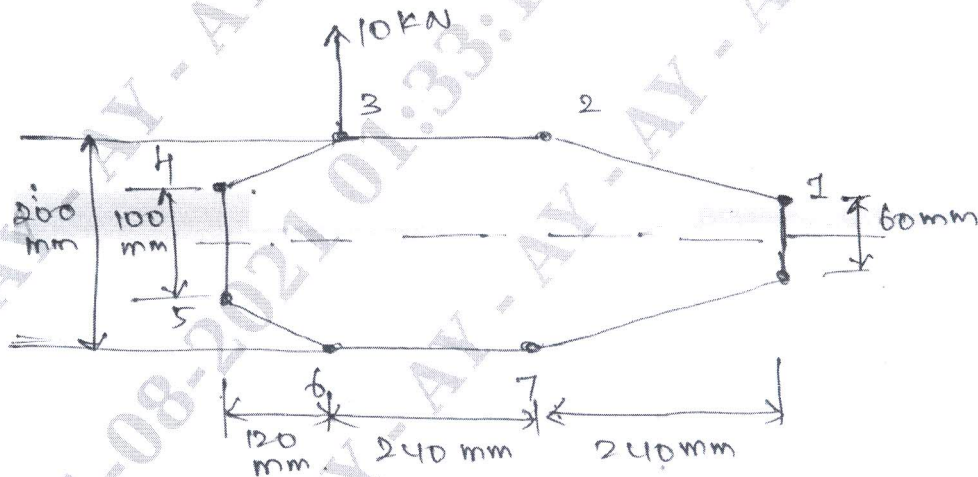

Fig. Q4
- 4 The thin walled single cell beam shown in Fig. Q4 has been idealized into a combination of direct stress carrying booms and shear stress only carrying walls. If the section supports a vertical shear load of 10 kN acting in a vertical plane through booms 3 and 6. Calculate the distribution of shear flow along the section. (16 Marks)